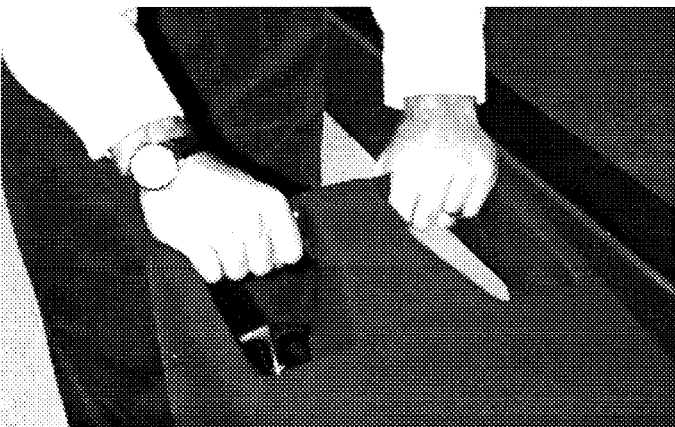

FIG. 5
2. Squeeze either one or both triggers to activate brush motor. With motor running, push machine forward to vacuum. Revolving brush should help assist in propelling of machine. (Figure 5)